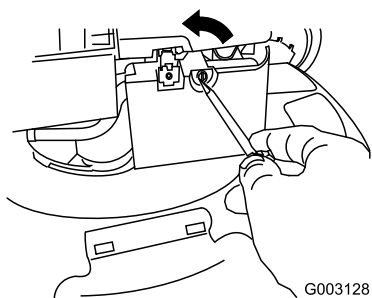

Figure 33
2. Use a screw driver to open the air filter cover (Figure 33).